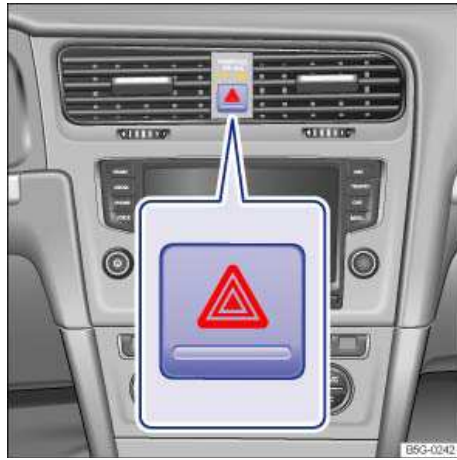

Fig. 159 In the center of the instrument panel: Button for the emergency flashers.
2. Switch on emergency flashers by pressing the  button ⇒ fig. 159.